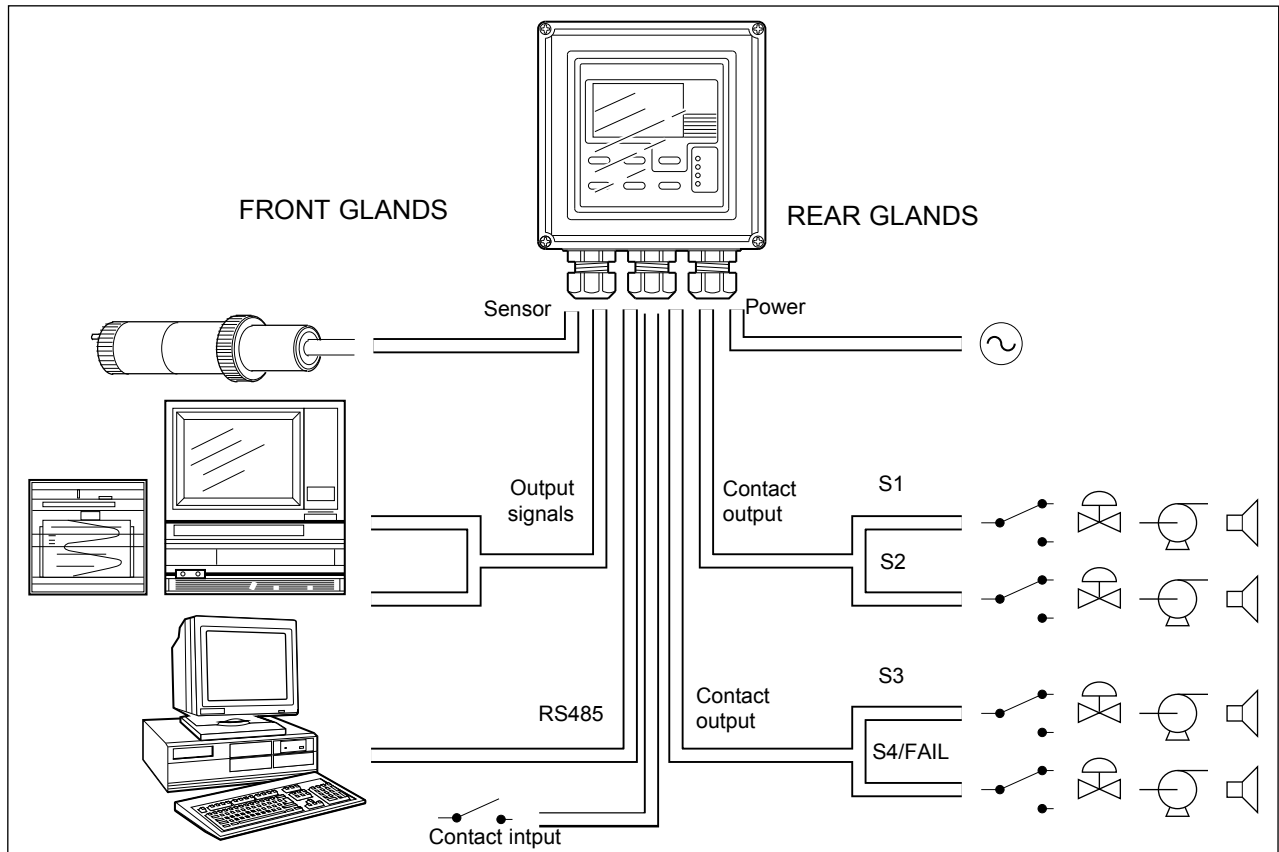

Figure 3-6. System configuration
8. Use the front three glands for analog output, sensor input, contact input and communication cabling (see figure 3-6).
Connect the wires as indicated in the wiring diagram (refer to figure 3-6).
The EXA unit's four contact outputs can be wired to suit your own custom requirements (Figure 3-6).
The analog output signals of the EXA transmit low power standard industry signals to peripherals like control systems or strip-chart recorders (Figure 3-6).